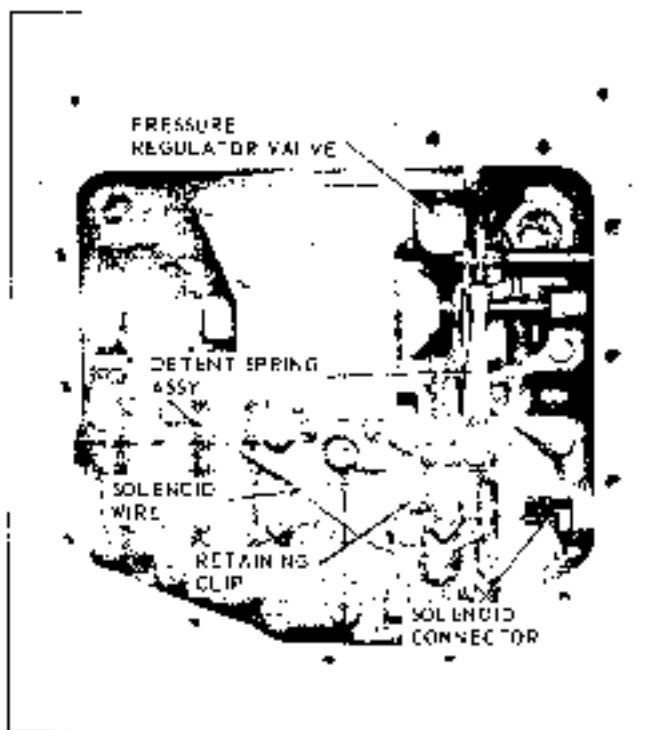

Fig. 7F-25 Transmission - Oil Pan and Strainer Removed
6. Connect solenoid connector to case terminal (Fig. 7F-25). Make certain that case terminal retaining finger engages connector and wire is retained by clip.